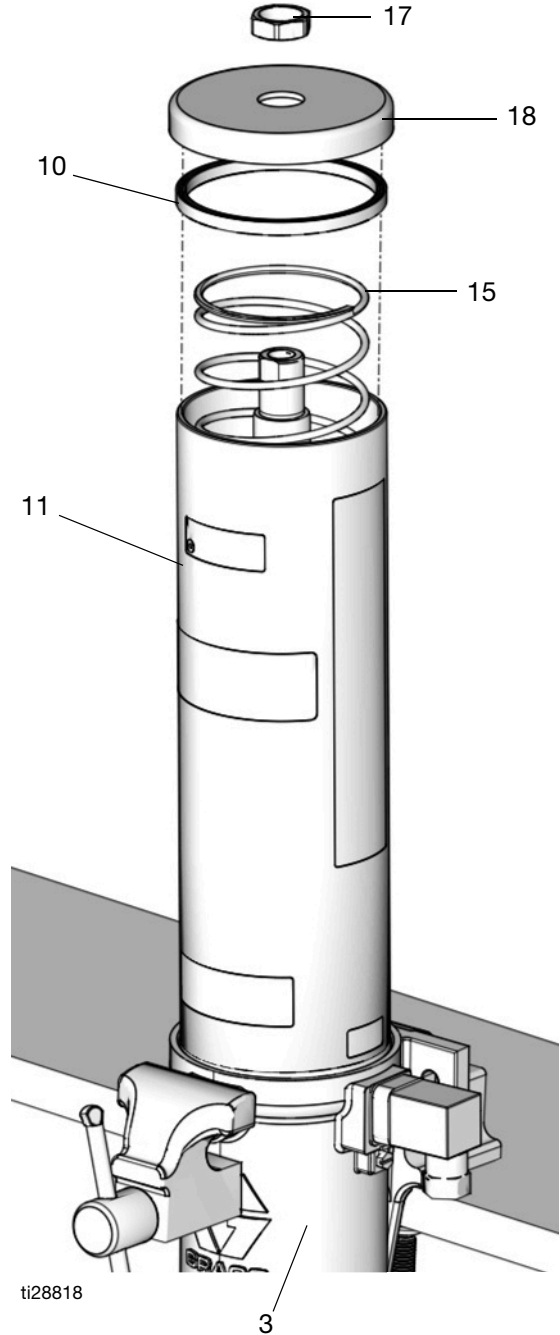

FIG. 14
10. Remove the cover (18) and spring (15) from the reservoir (11).
11. Remove the reservoir (11) from the air motor cylinder (3) (FIG. 14). If replacing the reservoir gaskets (10), remove gaskets from the reservoir. Dispose of the gaskets according to all regulations for proper disposal.